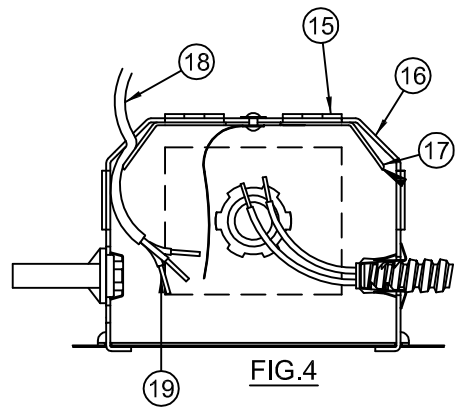

FIG.4
**E.- Run Supply Wires:** through UL Listed Connectors (not supplied) in one of the five pryouts (15) on the Junction Box (16) or Type NM cable (ROMEX), through an Opening above the Wire Retaining Plate (17). Cable (18) is secured by Wire Retaining Plate (17). Connect Wires to Supply Wires (19) as shown in Wiring Diagram. Replace Junction Box Cover Assembly (14). (Fig. 4 & 5)